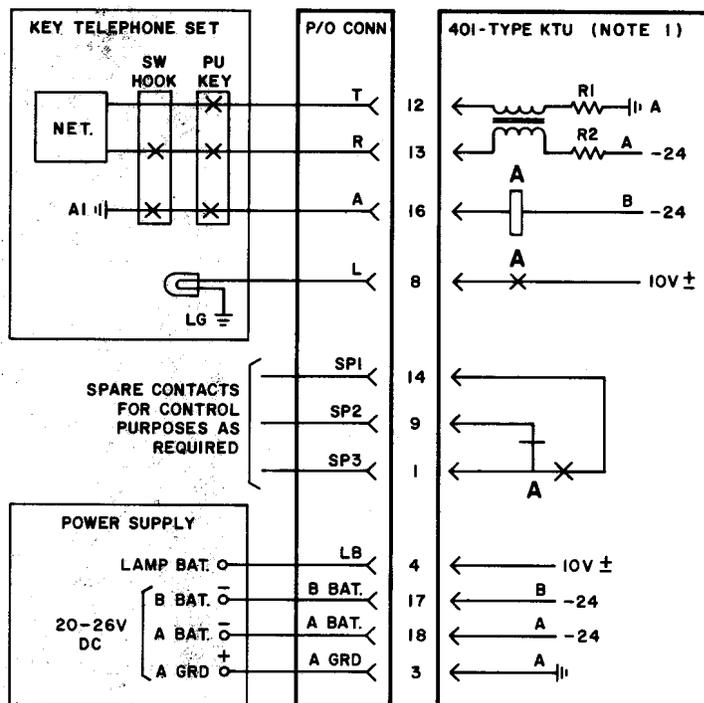

Fig. 4—Condensed Functional Schematic of 401A or 401B KTU (Manual Intercom Line Circuit)
1.08 Functional schematics (Fig. 4 through 21) cover the basic circuitry of each KTU, contacts used, and its relationship to telephone sets, other KTUs, power supplies, and apparatus. Dashed lines are used to simplify the schematics and to indicate intermediate circuitry. If full schematics are required, refer to the SDs listed in paragraph 1.11.
2.01 The 401-type KTUs (Fig. 4) are 4-inch, 18-contact units that provide talking battery for manual intercom and control for line busy lamp feature.